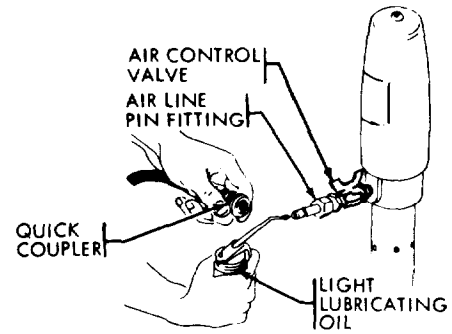

Fig 2
- (1) For automatic lubrication, install accessory air line Oiler shown on page 5, or lubricate air motor weekly by injecting about 15 drops of light oil into quick coupler pin fitting before starting pump. See Fig 2.
- (2) Stop pump immediately when it is running too fast and check solution level in supply container.
- (3) Oil spray valve periodically.